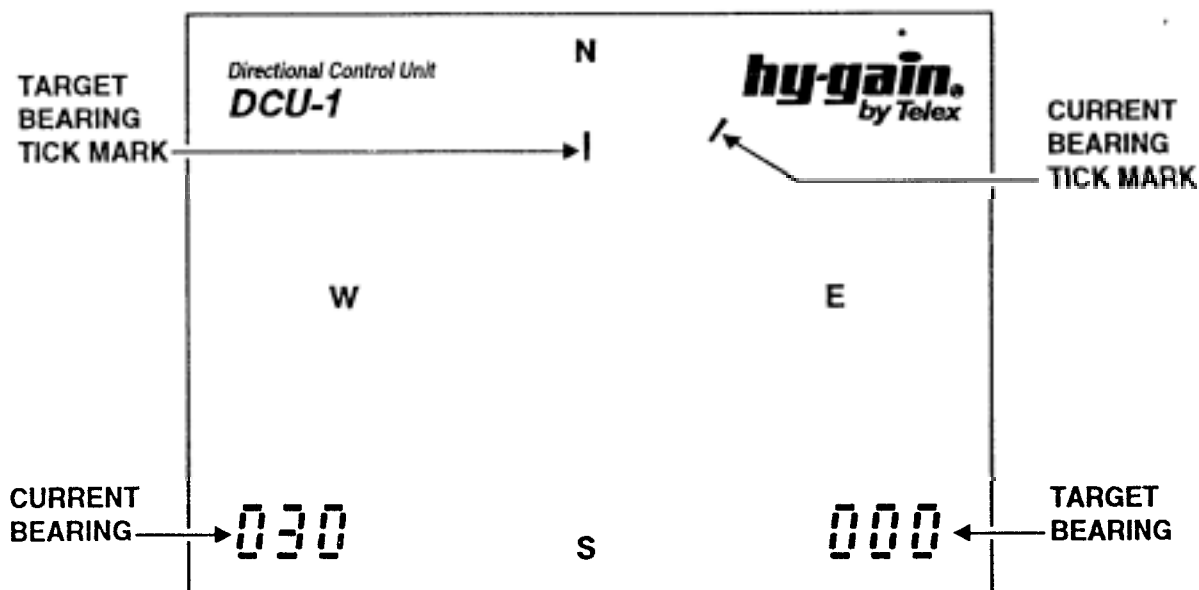

Figure 4
5. The DCU-1 display should look similar to the display shown in Figure 4. The numeric display in the lower left corner indicates the current bearing of your rotator. The numeric display in the lower right corner indicates the target bearing. If both displays read a steady "000", disconnect your control cable and check the cable wiring with an ohmmeter. See Section 9, "Checking the Rotator Resistances from the Ground". Proceed if the cable checks OK.